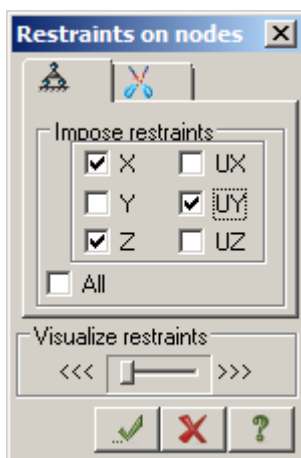

Figure 1.7 **Restraints on nodes** dialog box
- ⇒ In the **Restraints on nodes** dialog box (see Fig.1.7) specify directions along which displacements of nodes are not allowed (X, Z, UY). To do this, select appropriate check boxes.